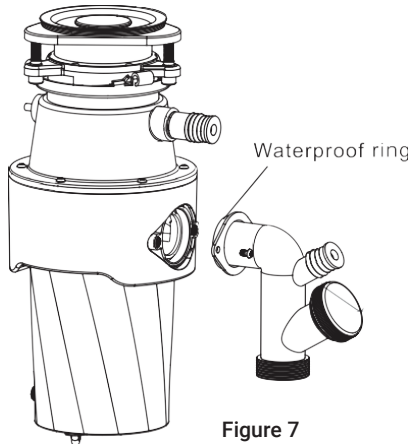

Figure 7
1. Align the four-way drain pipe assembly with the machine drain port and push it in (see Figure 7 before installation, the four-way assembly must be checked for waterproof rings).